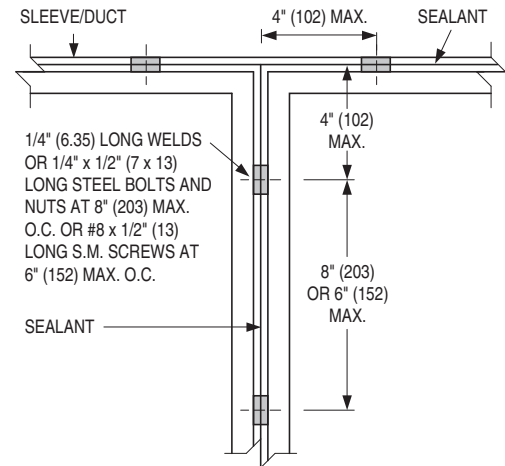

Figure 4. Multiple section assembly joint detail
9. Multiple-section assemblies: In multiple assemblies of vertical or horizontal dampers, the frames shall be joined together on both sides of the damper using 1/4" (6) long welds, 1/4" (6.35) dia. bolts and nuts, or #8 sheet metal screws. Center distances as noted on joint details in Figure 4.